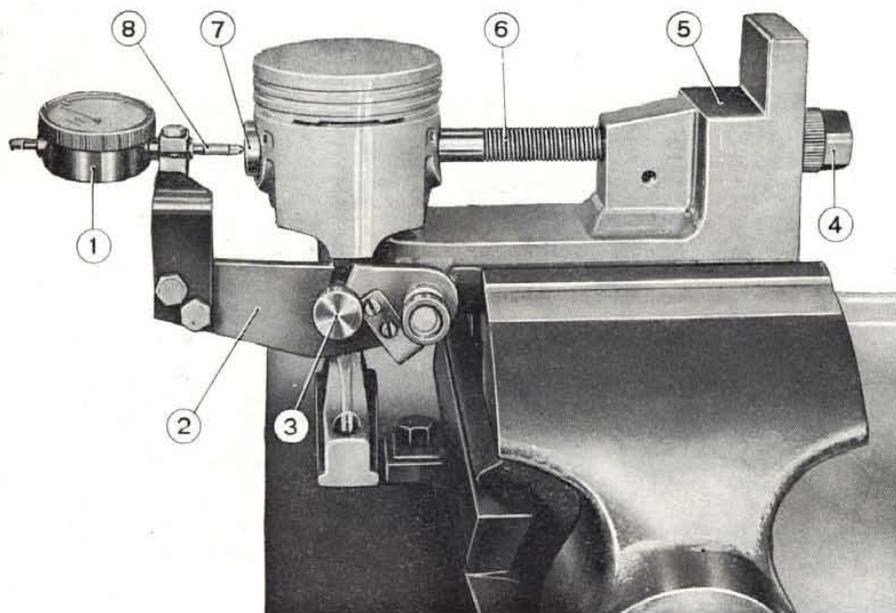

Fig. 57.
1) Clamp the fixture holder (5, fig. 57) in a vise and affix the connecting rod-piston-pin assembly to the holder.
2) Lower the indicator clamp (2), slide the threaded rod (6) through the pin hole and into the holder until the rod end (7) abuts against the pin face.